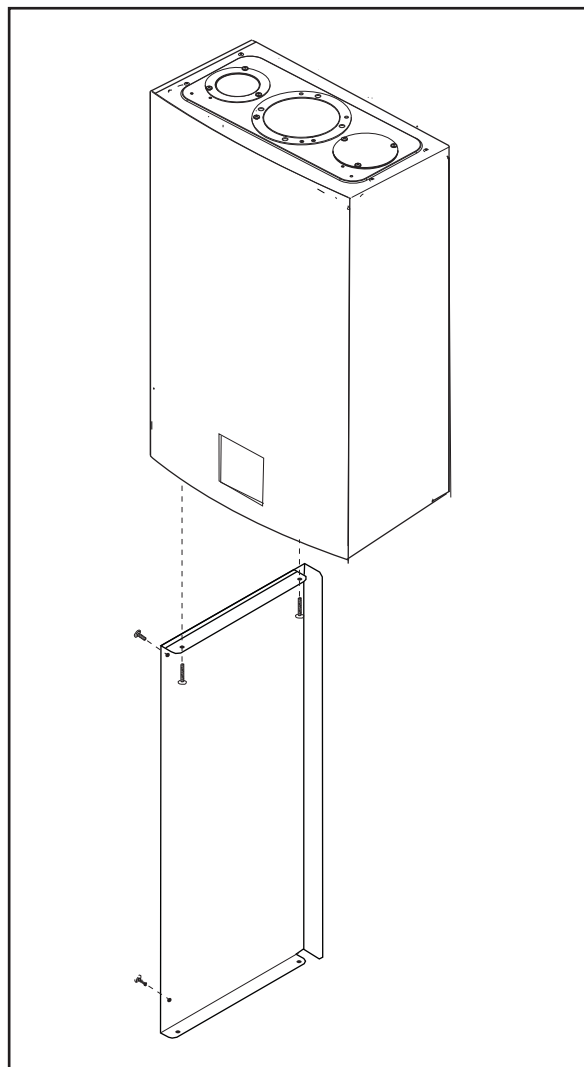

Fig. 5 Left side panel installation
6. Install the left side panel of the pipe cover with the right angle bends facing the wall and down. Tighten the screws to hand tight, then back out 1 turn. See Fig. 5.